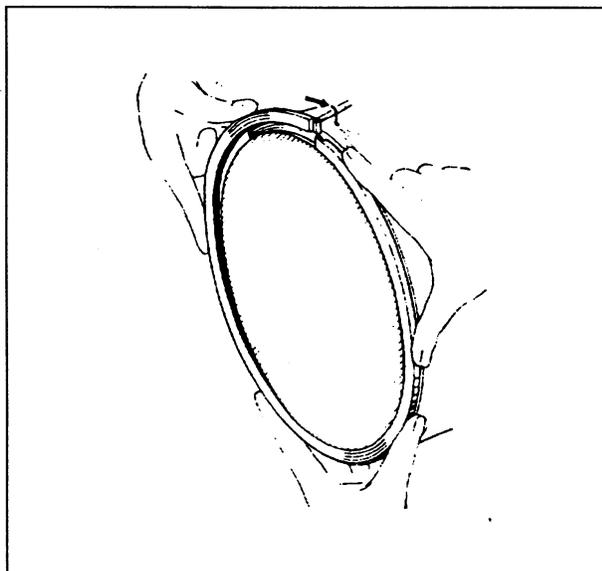

Fig. 1-4 Installation seal rings
- press one end of ring against the inner face of the seat (Fig. 1-4);